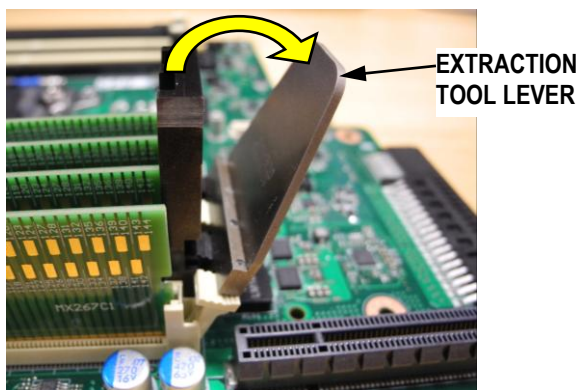

Figure 5
- Grasp the extraction tool lever and pivot it away from the socket to extract one side of the memory modules. There is a built-in stop on the tool to prevent the latches from being swung too far open. See Figure 5.